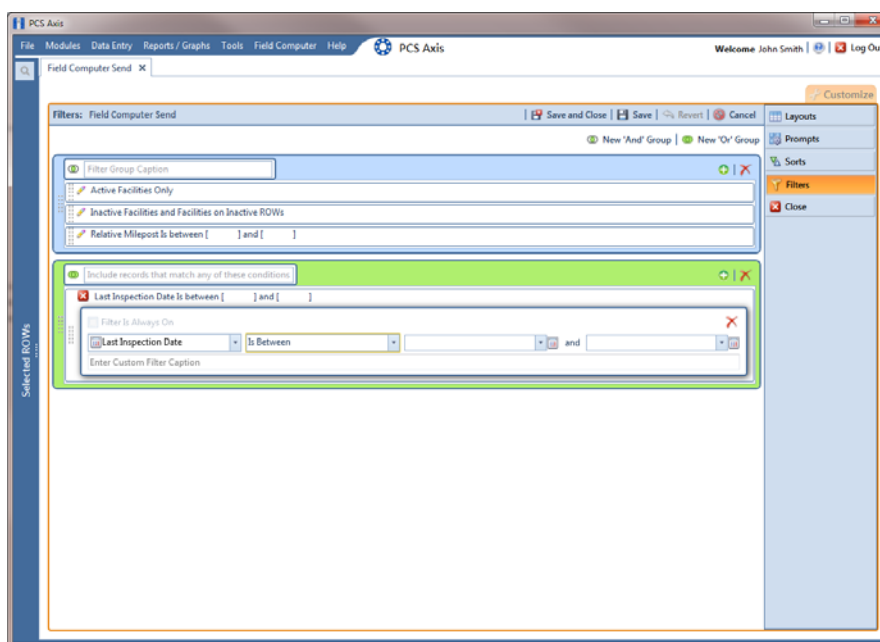

Figure 13-36. New 'Or' Filter Group
- 4 Click the **Customize** tab , then the **Filters** button  to open the *Filters* page (Figure 13-36, page 556).
- 5 Click  **New 'Or' Group** to open a filter properties group box (Figure 13-36).
- 8 If the OR filter group includes a date filter, such as *Facility Delinquent Date Is Between* shown in Figure 13-36, page 556, set a date range using a calendar or dynamic dates in the following manner: